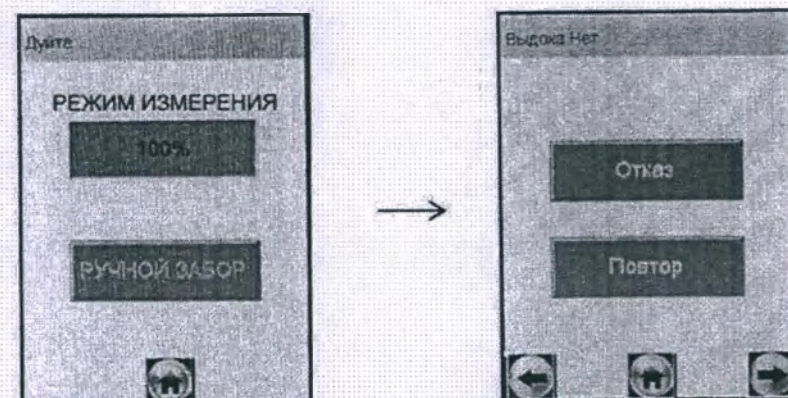

Figure 18 - Changing windows in the absence of exhalation
2.8.21 If, when performing 2.8.12 **Blow** ” window of readiness for sampling (Figure 18, left) will be replaced by the “ **No exhalation** ” window (Figure 18, right) after 30 seconds.